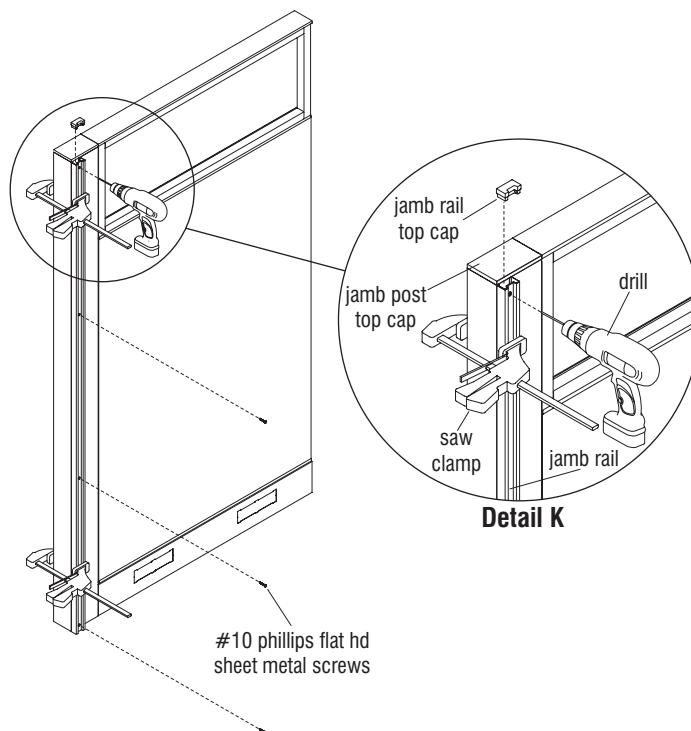

Figure 19
3. While the jamb rail is clamped securely and straight, use a  $\frac{1}{8}$ " drill bit and bore holes through the jamb post using each of the four jamb rail holes as guides for drilling (Figure 19, Detail K).
4. Install four #10 Phillips flat head sheet metal screws to secure the jamb rail to the jamb post. Do not over-tighten screws (Figure 19).